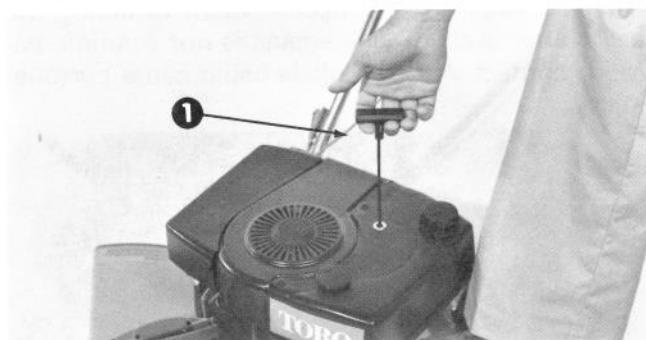

Figure 8
**Recoil Starter** (Fig. 8) — After moving throttle control to position No. 1, pull fingertip starter to start the engine.